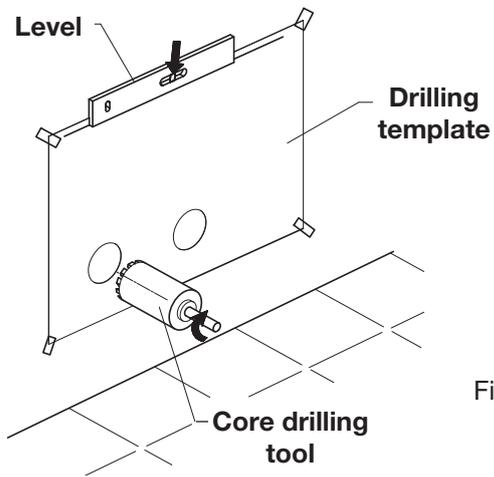

Fig. 1
- Apply at the wall the paper drilling template, fix and level it. (Fig. 1)